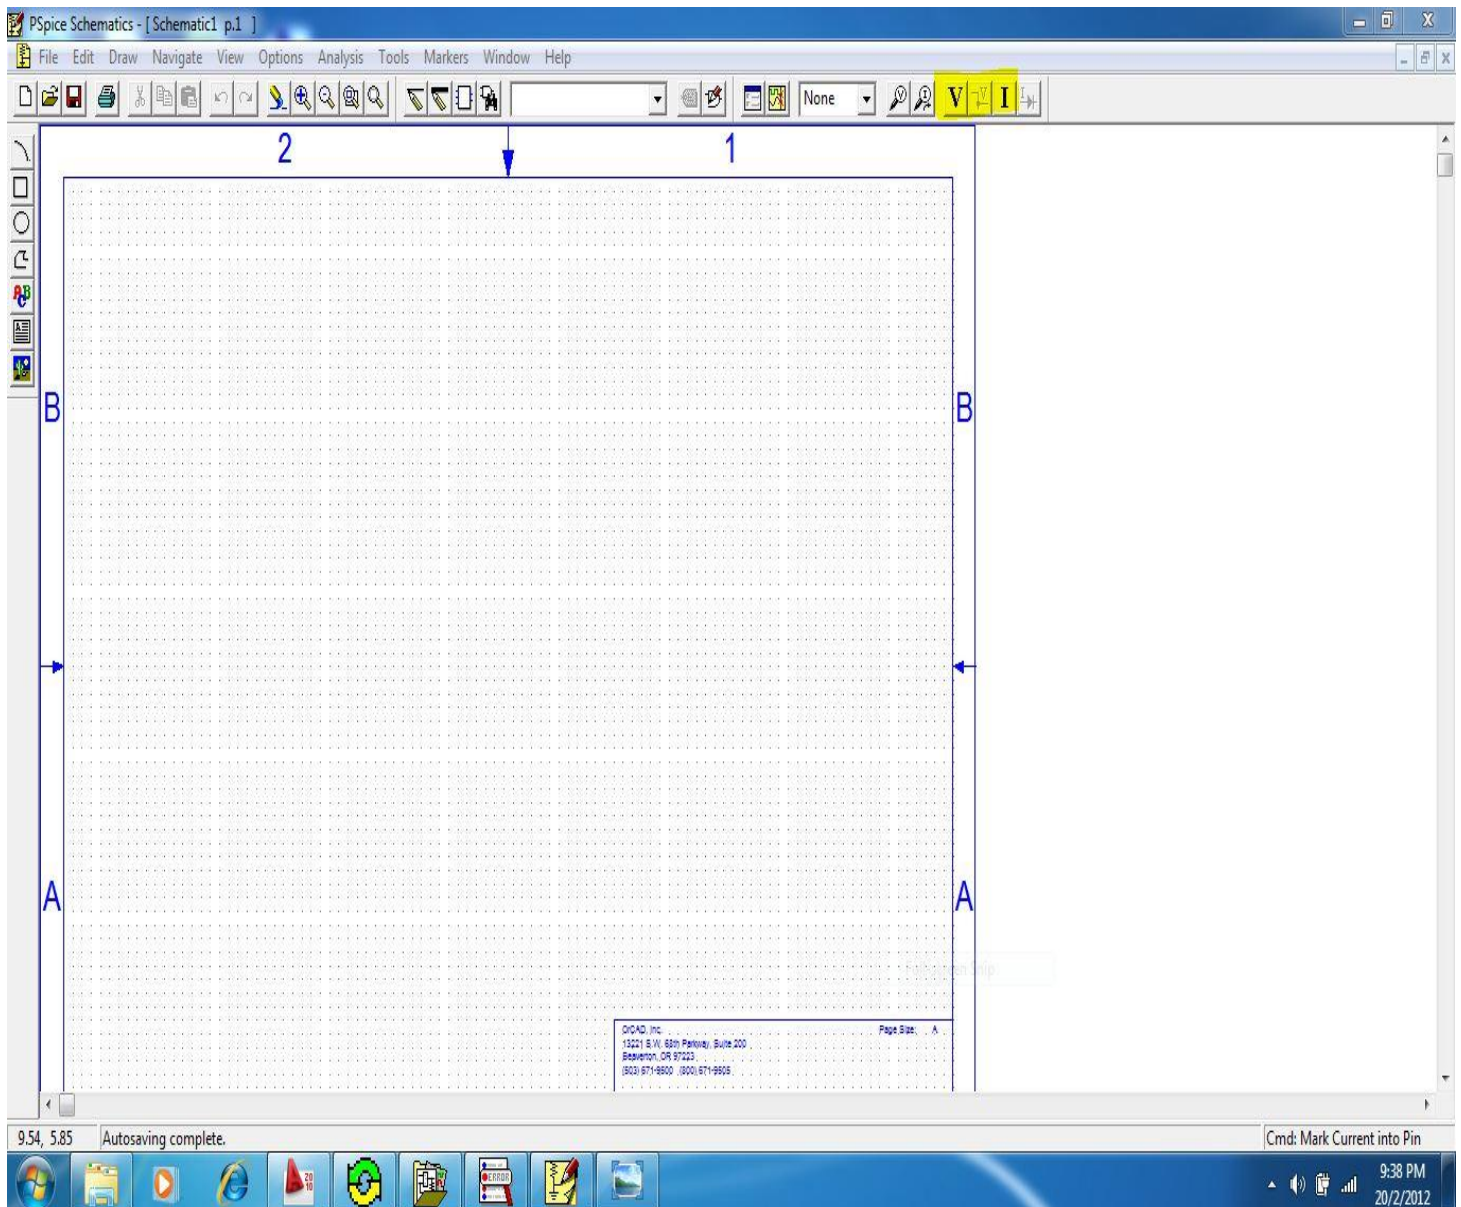
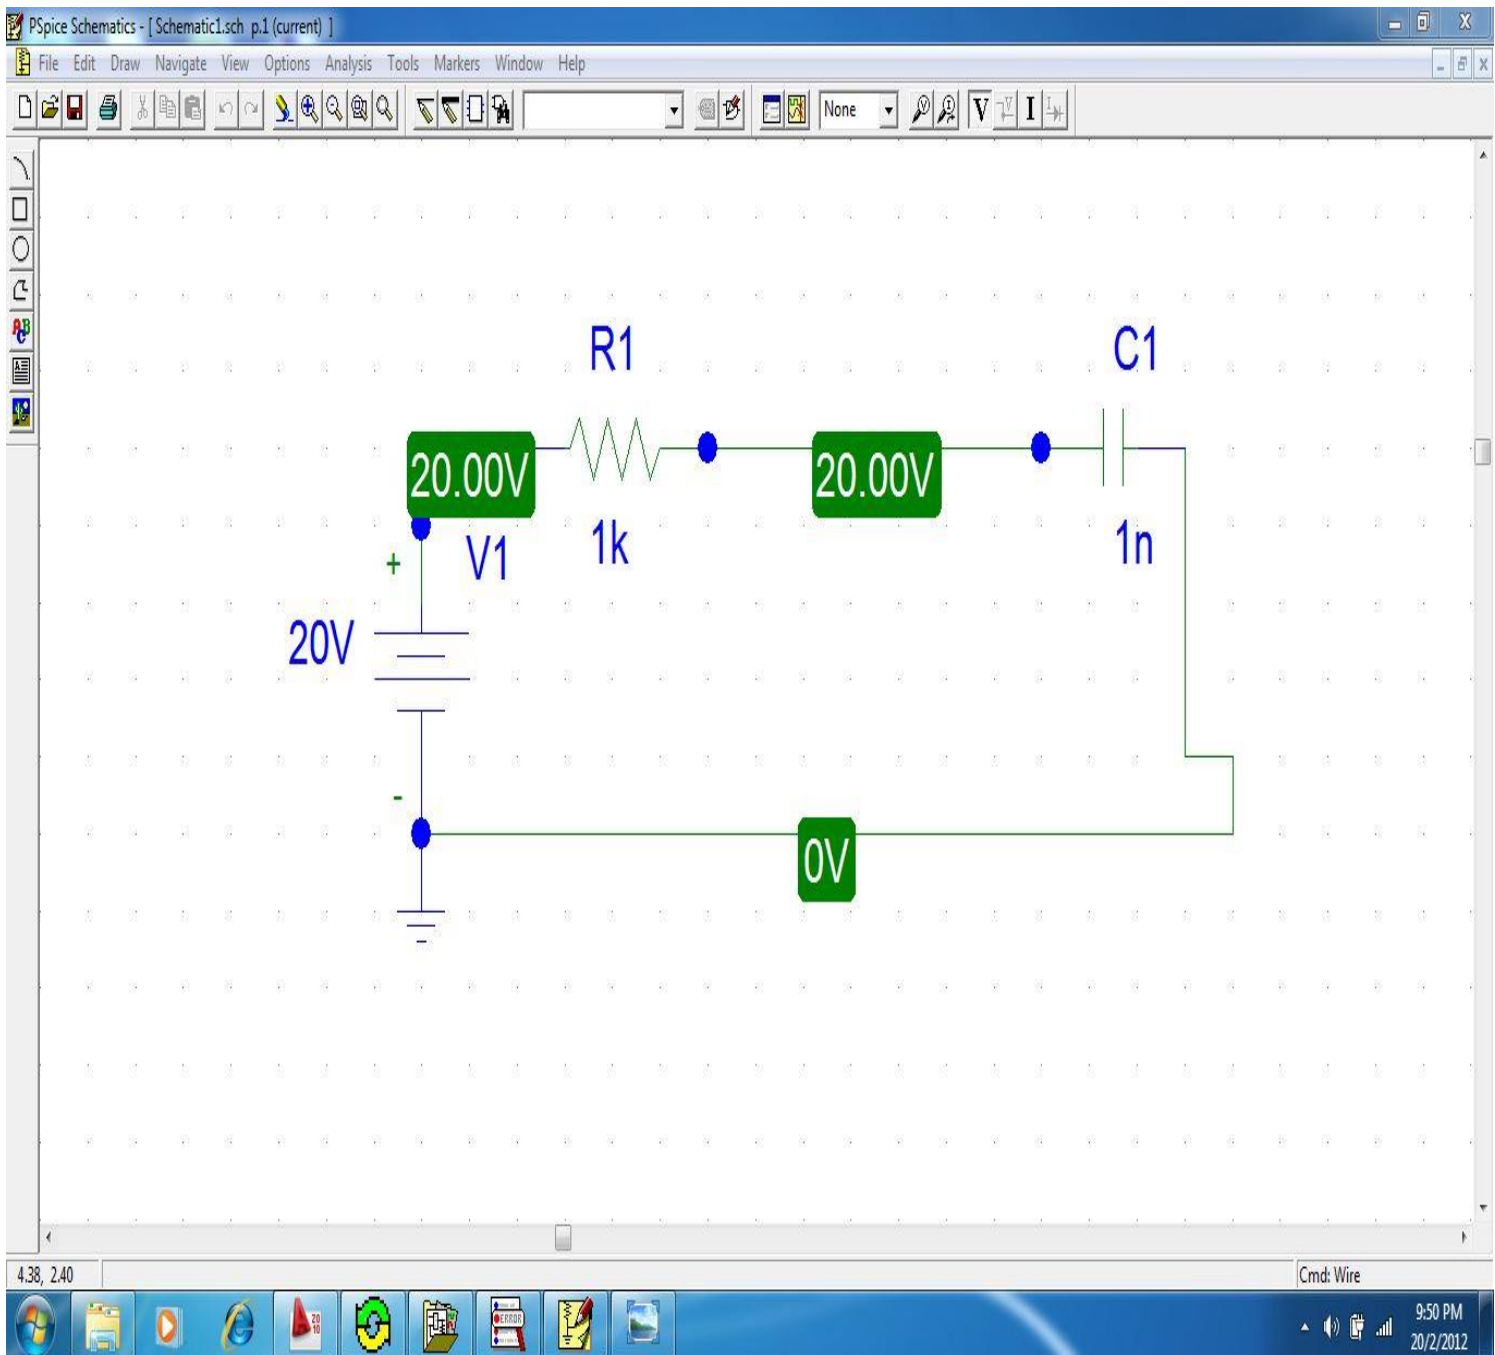
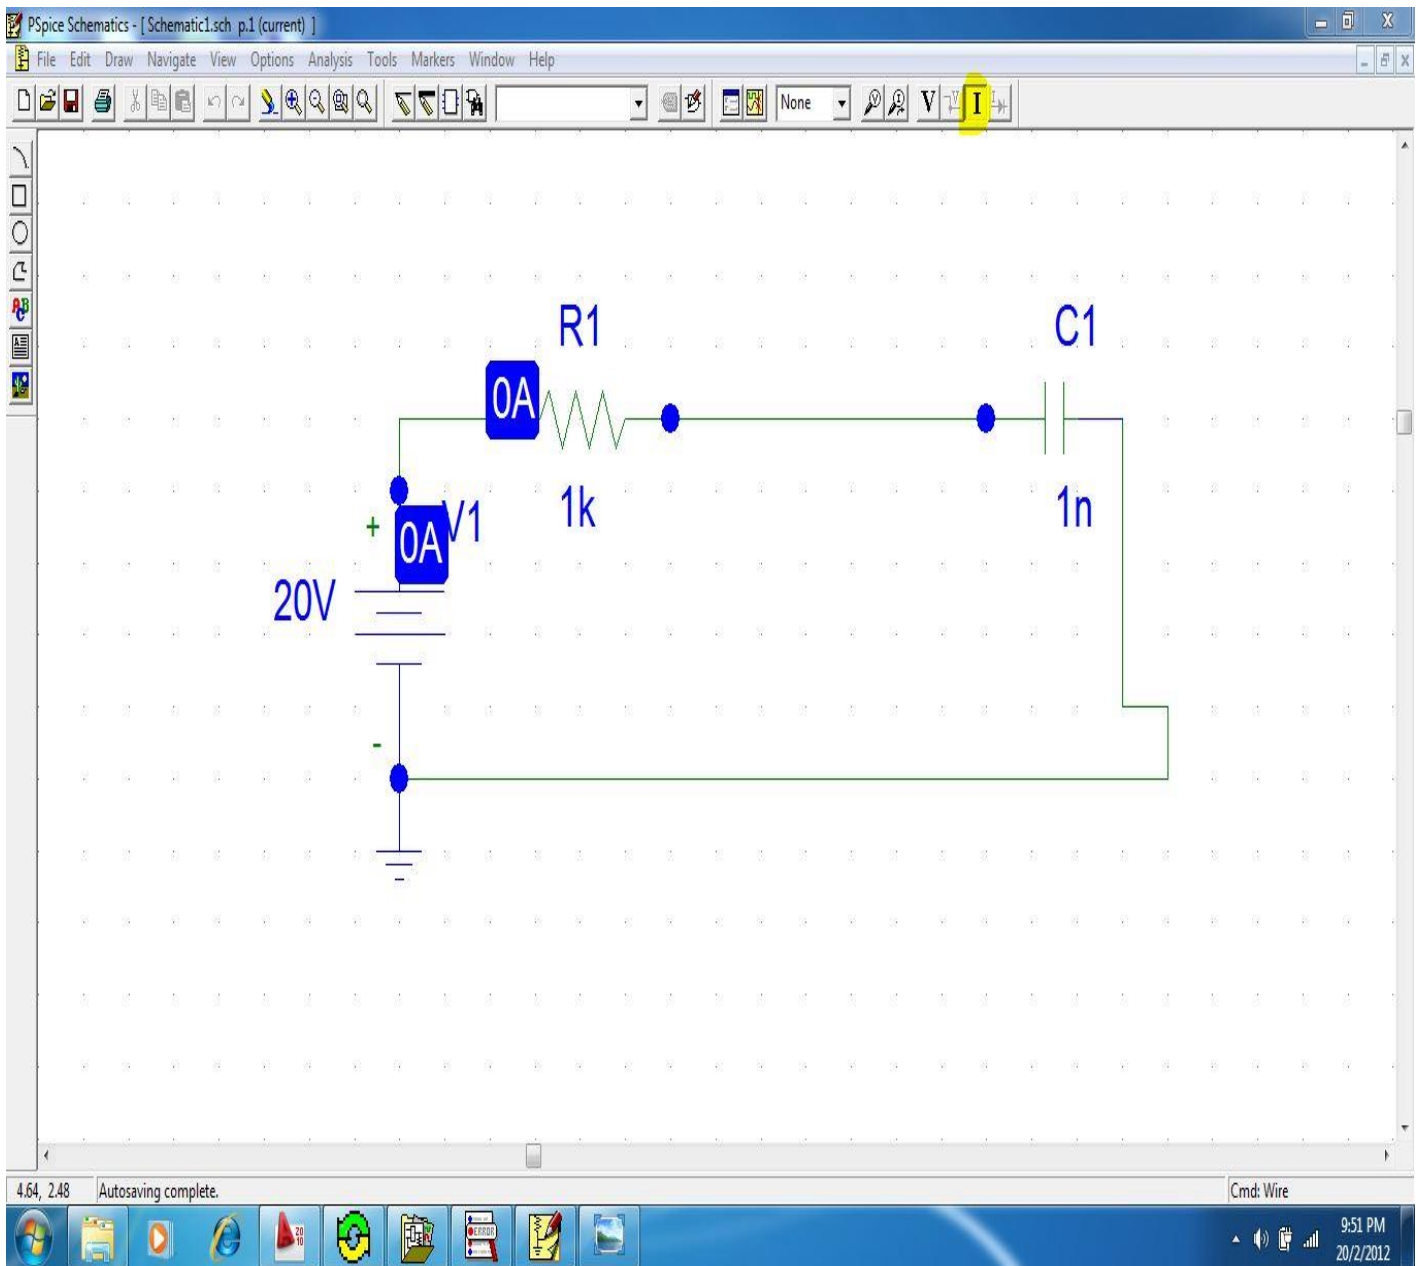

Figure-5
Figure-9
Figure-10
8. The Figure-5 highlighted **V** and **I** buttons by yellow color by clicking that we can make voltages values at nodes to appear and current values in the branches to appear directly.
12. The Figure-9 shows voltages at nodes, this can be obtained by pressing the V button as shown in figure-5 step-8, the voltages appear in green boxes.
13. The Figure-10 shows we obtain the currents in the branches, this can be obtained by pressing the **I** button as shown in figure-5 step-8, the Currents appear in blue boxes.